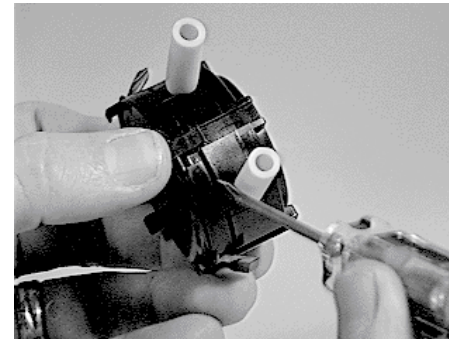

Figure 1
Step 4: Gently depress the release tab (located between the inlet and outlet tubing ports) with your left thumb and insert a small flat screwdriver into the gap between the pump lid and body. Rotate the screwdriver 90 degrees to separate the lid from the body. Repeat on the opposite side. See Fig. 1.